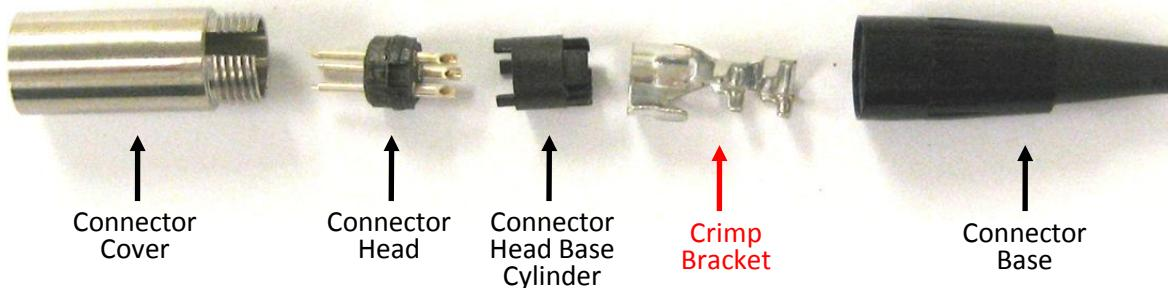

Fig. 4.1 Discard the crimp bracket.
4.1 Figure 4.1 below shows an exploded view of the mini-XLR connector. The crimp bracket is highlighted in red. This piece is made of highly ferromagnetic stainless steel and must be discarded.